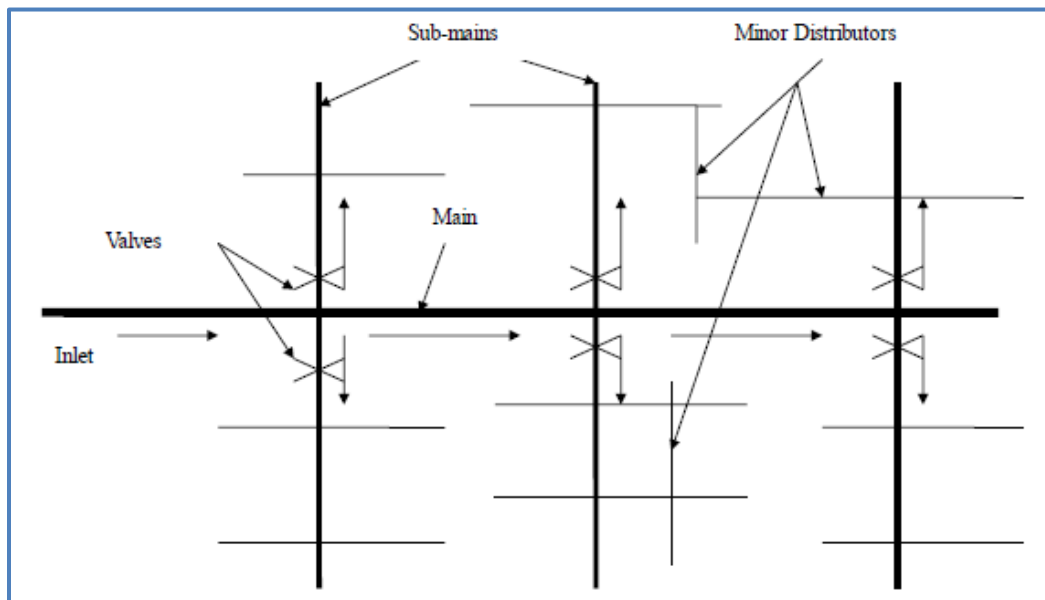

Figure 8: Component of the pipe system (Dean End System)
- ✓ **Dead End System** (Figure 8)